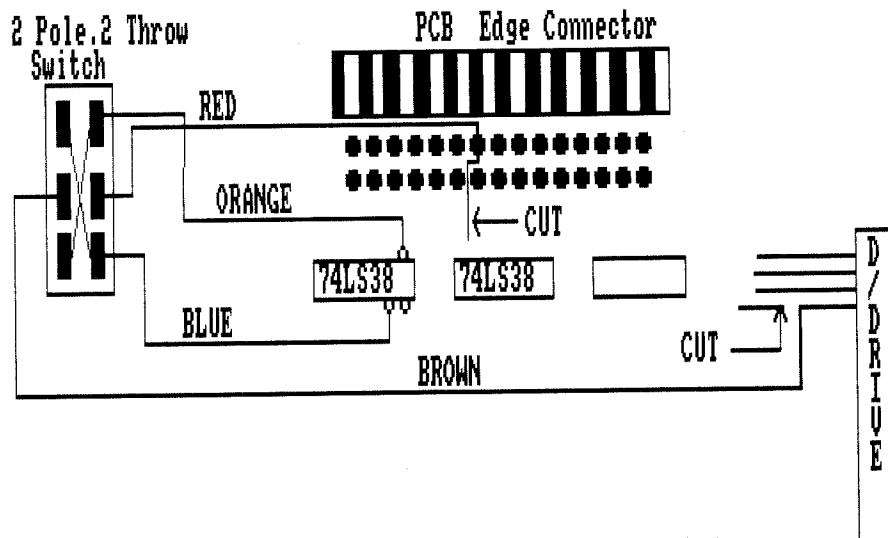
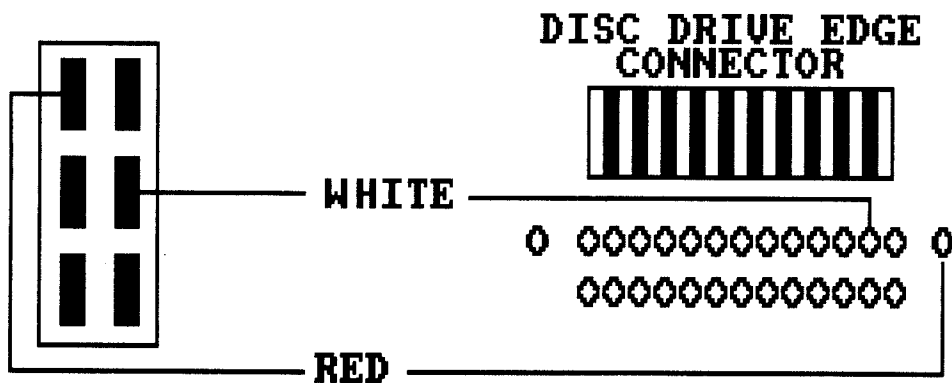

FIGURE 1.
FIGURE 2.
1. Cut a short length of cable and bare both ends. To one end of this attach a 10" or longer length of RED cable by twisting the ends together and solder the joined ends to one of the corner terminals of the switch, then the other end of the short wire to the opposite corner terminal as shown. (Fig. 1.)
2. Repeat this using BLUE as the longer piece of cable and solder to the opposite corner terminals again as shown. (Fig. 1.)
5. Solder the RED cable to the Pin Hole SEVENTH from the LEFT, and cut the track to this pin hole as shown. (Fig. 1)
Should the need arise for the fitting of a side switch to your disc drive, the following notes and drawing (Fig. 2.) should help you on your way, although as I said earlier, these instructions refer to the 6128 specifically as far as I can see, and 464 owners should again await clarification.
1. Solder wires to switch as shown in the diagram. (Fig. 2)
Before we start note that in Fig.2 wires 15 to 30 are not connected together they are all individual and the diagram has been drawn this way so hopefully not to take up too much room, also whether this article is the same for all drives I'm not sure, because I don't want to blow up WACCI reader's computers.
In Fig.2, I then had to work out which wires connected to Drive B:, I then connected the appropriate connector and cable to stripboard position (CABLE B), the holes which are not filled in are the ones that should not be connected, this also applies to (CABLE A) if you follow Fig.2 then you should not have any problems.
Connecting an ABBA switch to the DDI-1 Interface is simple, if you look at Fig.2 the wires which need to be switched are 12 and 10. You can wire the ABBA switch (Fig.1) between Cable C & B or Cable B & A on the stripboard, connect some wire to points 1B - 2B & 1A - 2A and cut the tracks, solder the wires to the correct switch pins Fig.1, if you're not sure what I am going on about look between Cable C & B in Fig.2 and then look at the blown up view in Fig.2.
Look at Fig.2. Connect wire to points 1S & 2S then connect to a switch of your choice and this is also placed between Cable C & B see Fig.2; if unsure, switching in selects Side 1 or Side B and leaving out selects Side 0 or Side A.